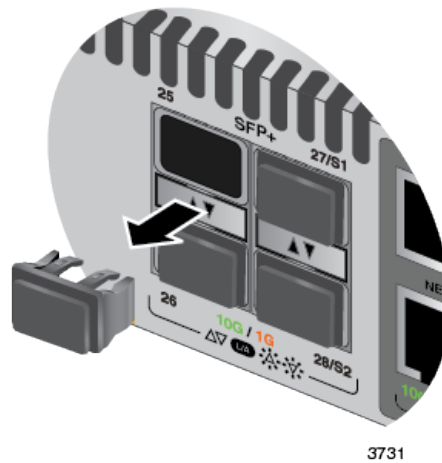

Figure 65. Removing the Dust Plug from an SFP+ Port
1. If the transceiver port has a dust plug, remove it. Refer to Figure 65.